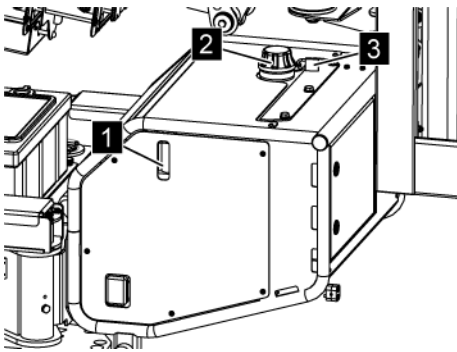

Fig. 216: Hydraulic oil
4. → Check the oil level at the inspection glass (Fig. 216/1).
5. → If necessary, top up the hydraulic oil (article no. 3917/0066) (↗ Chapter 3.9 'Consumables' on page 43). To do so, open the padlock (Fig. 216/3) with the corresponding key (↗ Chapter 4.6.1 'Keys' on page 56) and remove it.
6. → Unscrew and remove the lid (Fig. 216/2) from the hydraulic oil tank.
7. → Fill the hydraulic oil up to the maximum mark on the inspection glass (Fig. 216/1).
8. → Screw on the lid (Fig. 216/2) and secure it with the padlock (Fig. 216/3).